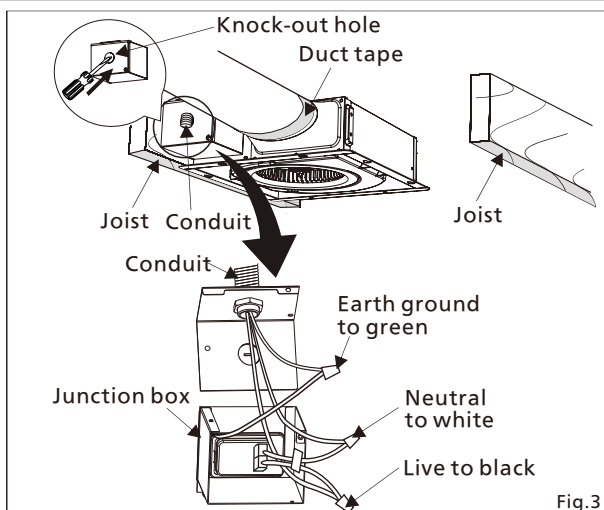

Fig.3
3. Remove junction box cover and secure conduit or stress relief to junction box knock-out hole. (Fig.3)
5. A 4 inch circular duct is needed to connect to the relevant part of adaptor. Squeeze the circular duct to fit the adaptor, then slip onto the adaptor and secure it with a clamp and seal it with approved duct tape or mastic. (If using 3 inch round duct, please purchase the 26 gauge steel Panasonic 4" Oval - 3" Round Reducer from our representative.) (Fig.3)